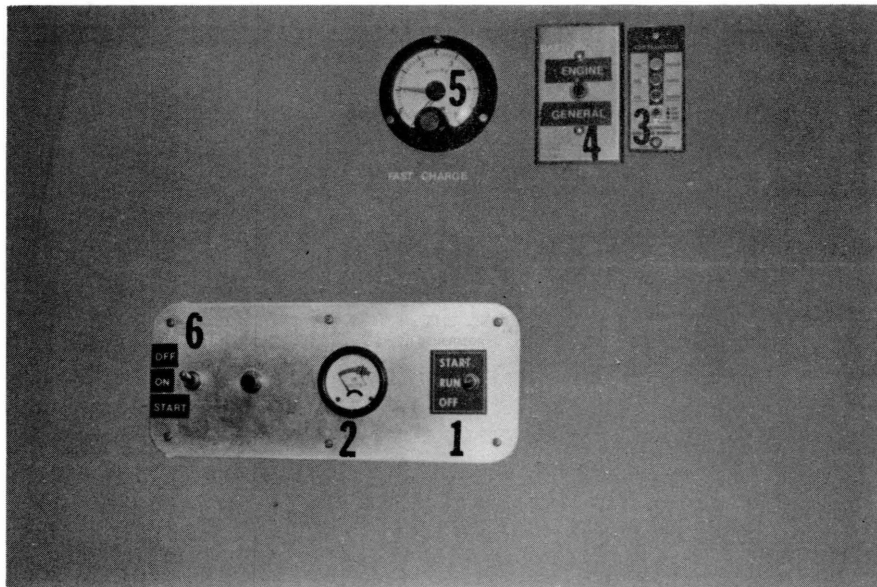

Figure 4.2.1. The remote control panel:
To obtain on-board power, start the alternator with the switch on the utility wall facing the kitchen counter (Fig. 4.2.1, item 1). Follow the check list in Appendix XII. Depress the switch to the start position until the engine fires up. Depress the switch to the off position to kill the engine. A voltmeter should register in the green range mounted near the switch (Fig. 4.2.1, item 2).
Since 12-V d.c. operation relies on batteries as the source of power, it is important to know the batteries' condition. A small panel (Fig. 4.2.1, item 3) with three lights in a column mounted near the engine start switch on remote control panel monitors battery charge level.
The lights indicate the condition of the general 12-V d.c. system only when the adjacent switch is pressed (Fig. 4.2.1, item 4). When the switch is not pressed, the lights indicate the level of the engine start battery while the engine fuel pump is working but the engine is not cranking. It is normal for the indicator to read low during actual cranking. When the switch is pressed, the lights indicate the level of the main 12-V batteries if the system is draining 12 V d.c. and the batteries are not charging. A test switch mounted on the panel tests the bulbs and buzzer and turns the panel off if desired.
The 12-V storage batteries are trickle charged as long as 120-V a.c. current is available. A timer provides a higher rate of charge (Fig. 4.2.1, item 5). The timer should not be set for a period longer than one hour.
To start the auxiliary heater, press the spring-loaded start switch until the heater has warmed up enough to sustain itself. The switch is on the remote start panel (Figure 4.2.1, Item 6). A click indicates that self-sustained operation is possible.